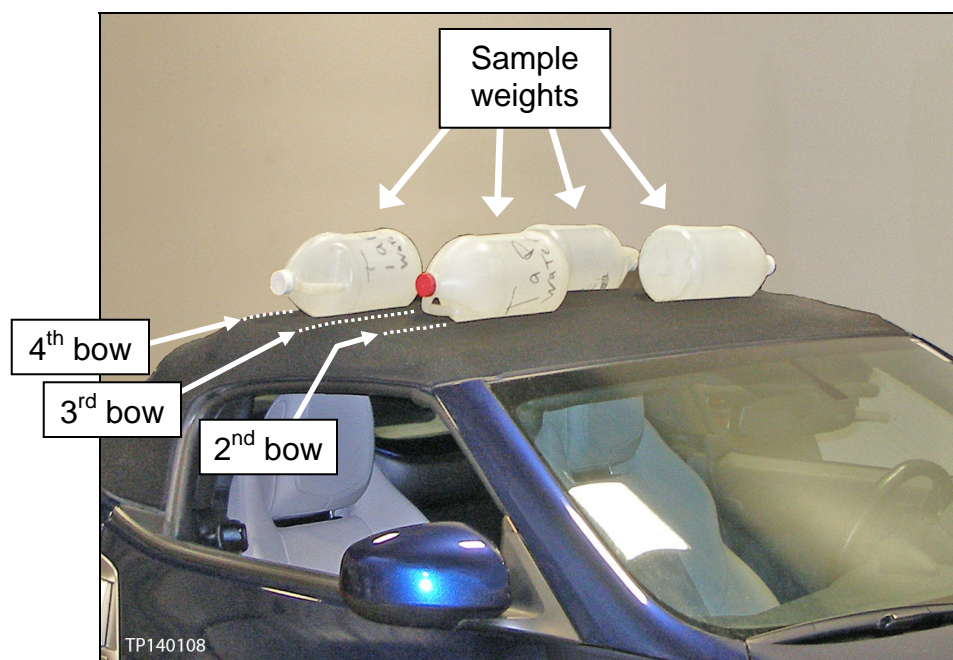

Figure 3; sample weights are 1 gallon water bottles
3. With the soft top fully closed, place weight evenly between the 2nd and 3rd, and 3rd and 4th bows (see example in figure 3).